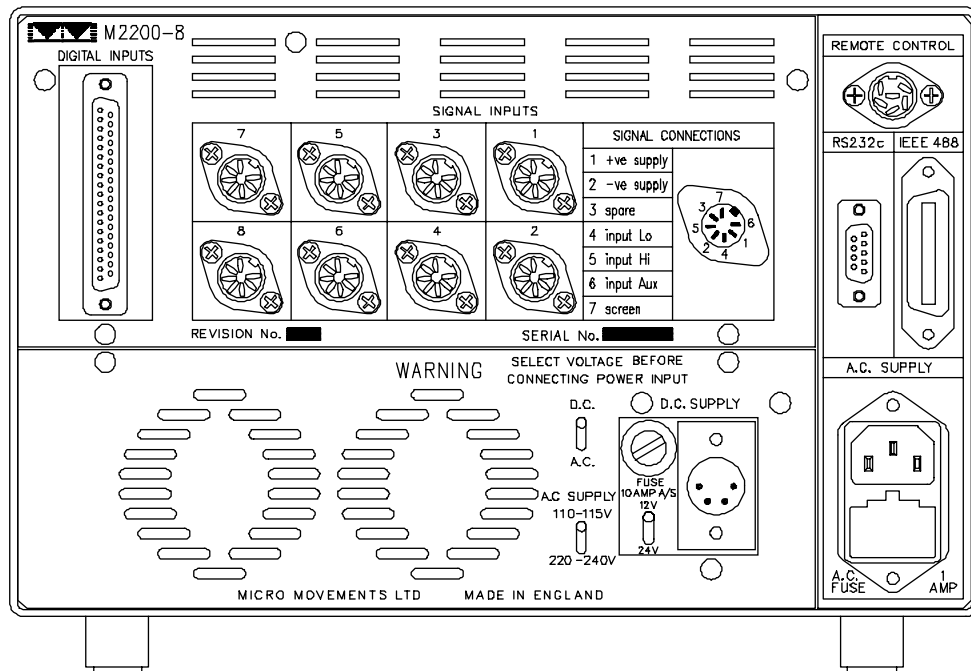

Figure 3-1 Rear View of M2200 Recorder (shown with A6 inverter).
- The recorder must always be mounted on a secure flat surface, with sufficient space left at the rear, so that cooling air can escape from the vents, which are below the signal connection points. (see Figure 3-1)